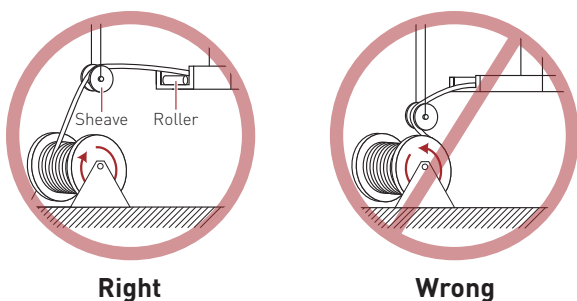

Figure 7: Reel setup
- Set up the cable reel assembly properly. The first sheave must be installed at a point higher than the support system (Figure 7). The setup shall ensure that the cable is not kinked or bent beyond the minimum pulling radius or subject to excessive twisting force.